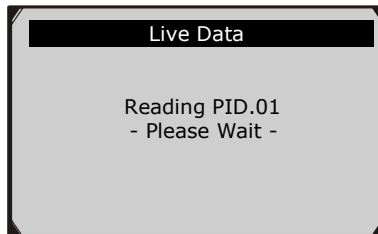

Figure 5.9
- 2) Wait a few seconds while the scan tool validates the PID MAP. (Figure 5.9)